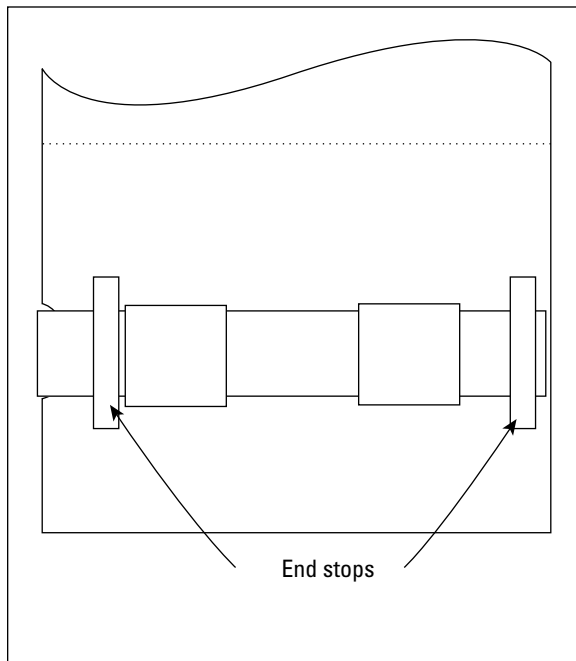

Figure 7-12:
6. Glue two end stops onto the pull tab (Figure 7-12).